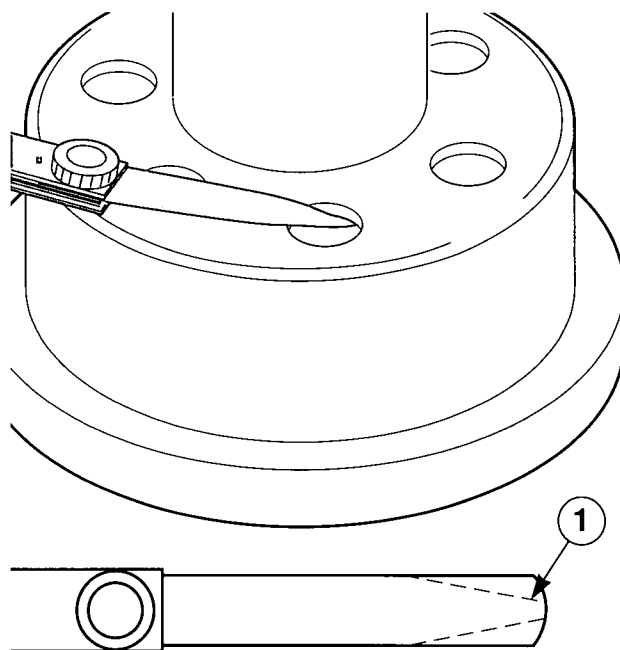

Figure 49 — Checking bearing block seat. Trim .0015" feeler gauge so that it may be inserted into hole. (1) Trim Lines.
7. **Carefully remove installation pins** (may be hot). Check with a .0015" (.0381 mm) feeler gauge through the pin holes to make sure bearing block is seated properly (Figure 49). Gauge should not slip between parts.
13. **Carefully remove installation rods** (may be hot). Check with a .0015" (.0381 mm) feeler gauge through the pin holes to make sure bearing block is seated properly (see Figure 49, page 51). Gauge should not slip between parts.